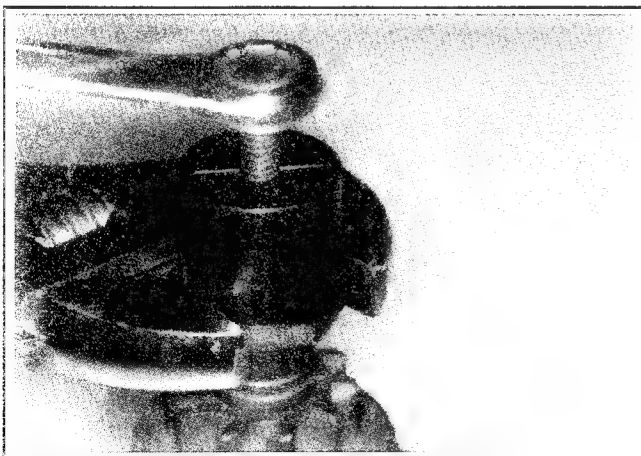

Figure 8-13. Holding Tool and Turning Center Screw (Clockwise) to Remove Retaining Ring.
5. Thread the center screw into the removal tool until you feel resistance. Use a wrench (1-1/8" or adjustable) to hold the base of the removal tool. Use another wrench or socket (1/2" or 13 mm) to turn the center screw clockwise (see Figure 8-13). The resistance against the center screw will tell you when the retaining ring has popped out of the groove in the armature shaft.